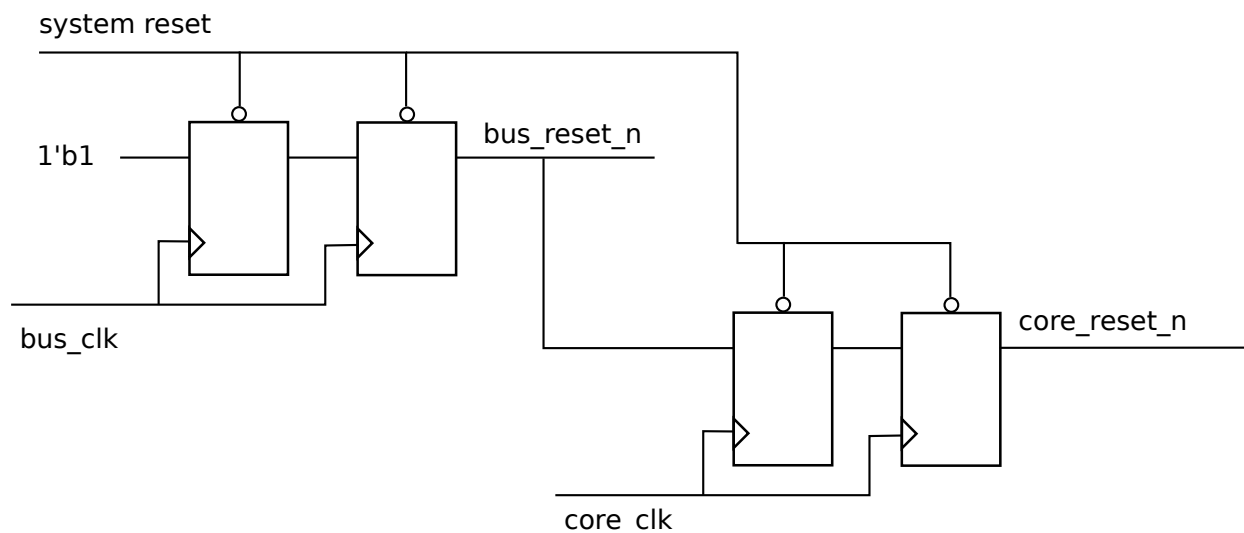

Figure 8: Reference Design for Reset Synchronization
In addition, to maintain proper reset ordering, `core_reset_n` should only be released after the release of the reset signal to the bus clock domain, even though NX25(F) does not take the reset signal to the bus clock domain as its input. Figure 8 illustrates a reference design for reset synchronization.